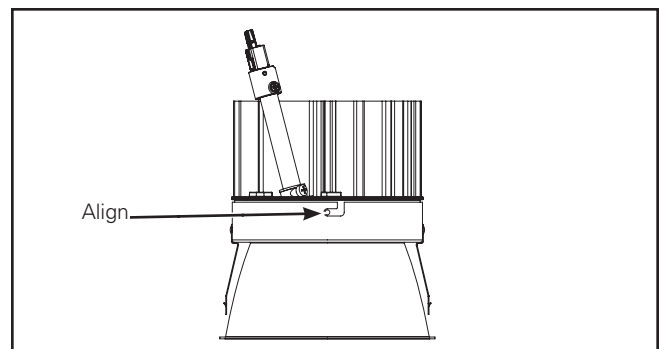

Figure 6.
3. Insert LED Engine into lower trim. Align LED Engine screw holes with lower trim screw slots (Figure 6.).